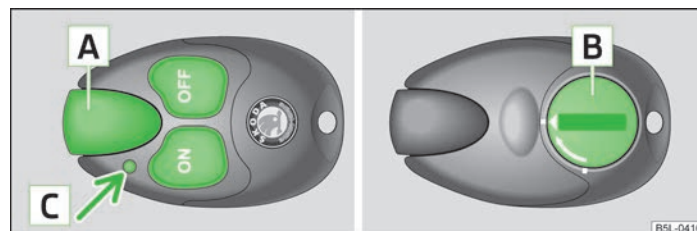

Fig. 92 Auxiliary heating: Radio remote control
- For switching on, press the button  » Fig. 92.
If the battery is properly charged, the effective range is up to 600 m. To switch on/off the auxiliary heating, hold the radio remote control vertically with the antenna  » Fig. 92 facing upwards. The antenna must not be covered with the fingers or the palm of the hand during this process. Obstacles between the radio remote control and the vehicle, bad weather conditions and a weaker battery can clearly reduce the range.
The warning light in the radio remote control  » Fig. 92 indicates after a key-stroke if the remote control signal was received by the auxiliary heating and if the battery is adequately charged.
If the warning light on the radio remote control indicates a weak or discharged battery,  » Fig. 92 on page 89, it must be replaced. The battery is located under a cover  » Fig. 92 on page 89 on the back of the radio remote control.